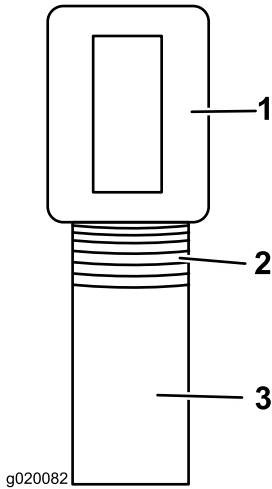

Figure 1
1. Remove the tape and the tube from the upper pole (Figure 1).